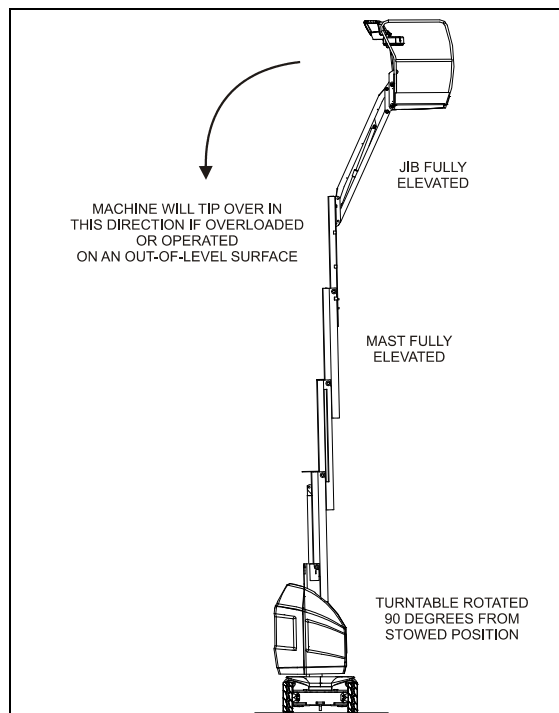
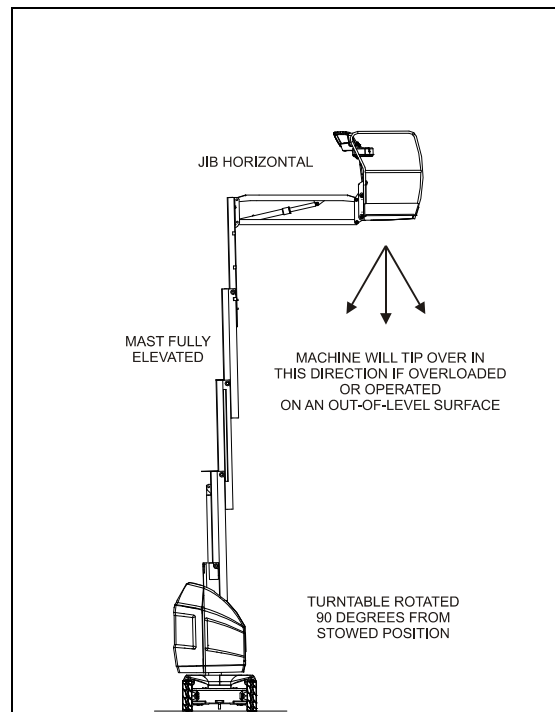

Figure 3-1. Position of Least BACKWARD stability
Figure 3-2. Position of Least FORWARD stability
Machine stability is based on two (2) conditions which are called FORWARD and BACKWARD stability. The machine's position of least FORWARD stability is shown in Figure 3-2. and its position of least BACKWARD stability is shown in Figure 3-1.